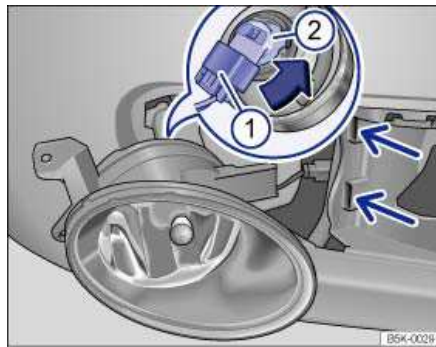

Fig. 207 Replacing light bulb in headlight.
3. Remove the screw (1) using the flat blade of the screwdriver in the vehicle tool kit
5. Release the connector ⇒ fig. 207 (1) and disconnect it.
6. Turn the bulb holder (2) counterclockwise in the direction of the arrow until it stops and remove it toward the rear with the bulb.
9. Connect the connector (1) on the bulb holder (2). You must hear the connector click into place.